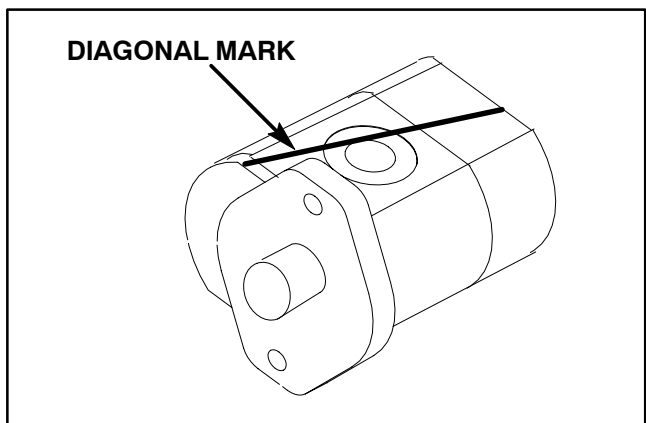

Figure 65
2. Use a marker or scribe to make a **diagonal** mark across the front flange, body and rear cover for reassembly purposes (Fig. 65).